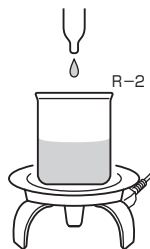

Fig.2
2. Heat the sample to boiling lightly. Stir the sample and add R-2 reagent until the reddish purple color does not disappear. (Fig.2)